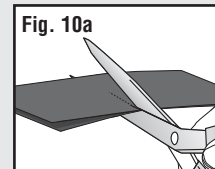
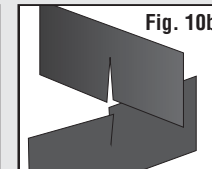

Fig. 10a
Fig. 10b
- Cut two strips of Blackout Paper, each measuring $3 \frac{5}{8}$ in L x 1 in W. Place the two strips on top of each other and cut a notch halfway up (**Fig. 10a**). Assemble as shown (**Fig. 10b**).